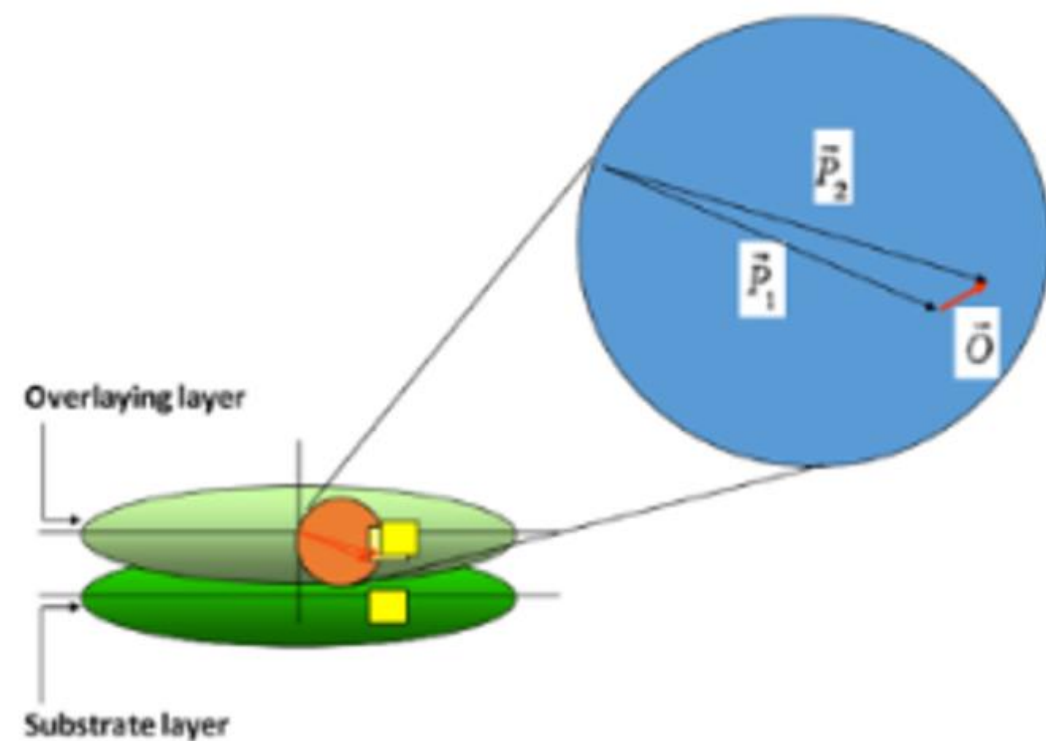

Figure 1
5.2.4 *overlay* — a vector quantity defined at every point on the wafer. It is the difference,  $\vec{O}$ , between the vector position,  $\vec{P}_1$ , of a substrate geometry, and the vector position of the corresponding point,  $\vec{P}_2$ , in an overlaying pattern, which may consist of photoresist:  $\vec{O} = \vec{P}_1 - \vec{P}_2$ . (See Figure 1.)